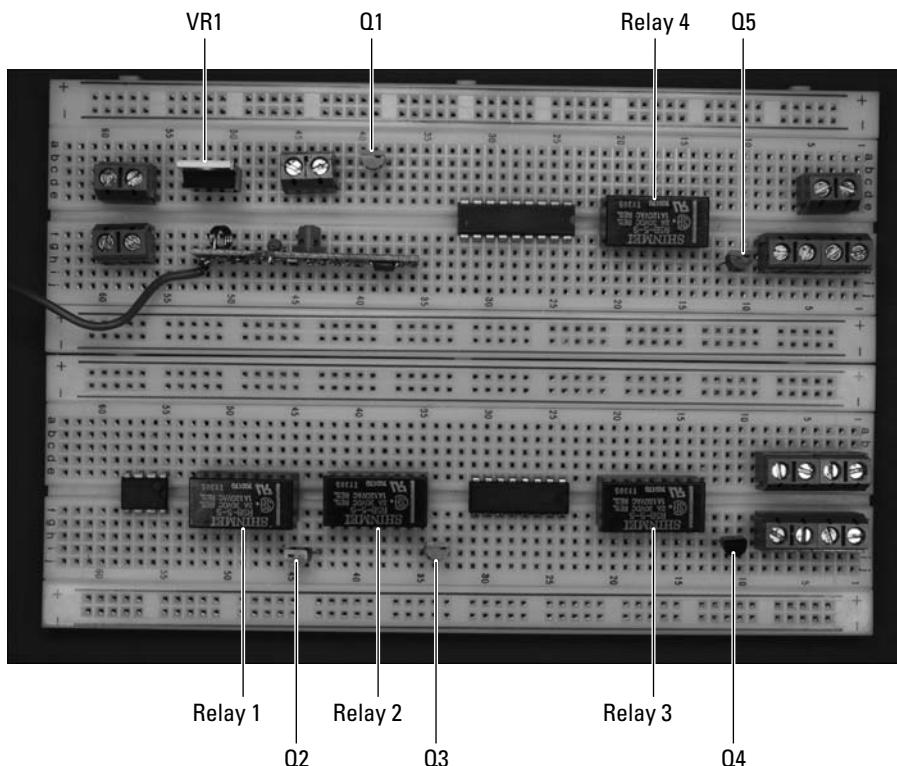

Figure 13-19:
3. Place the four RB5-5-S relays (Relay 1–Relay 4) and five 2N3904 (Q1–Q5) transistors on the breadboard, as shown in Figure 13-19.
- Collector lead to the left side, as shown in Figure 13-19